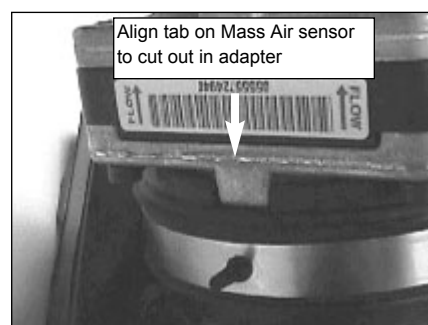

Fig. 4
13. Re-connect the air intake hose to the throttle body and the Mass Air sensor to the adapter making sure to align the locator on the Mass Air sensor to the cut out on the adapter (Fig 4) and tighten the two hose clamps. Note: It may be necessary to put a very light amount of silicone spray on a rag and wipe it on the inside of the adapter in order to get the Mass Air sensor to seat fully.